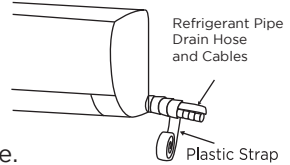

Fig.11
- Now remove the cover on the top valve using an open-ended spanner. Open the valve by turning it counter-clockwise as far as it will go using a 5 mm Allen key. The valve is now open. Screw the cover back on to the top valve and tighten it well to ensure that it is properly sealed. See Fig. 11.